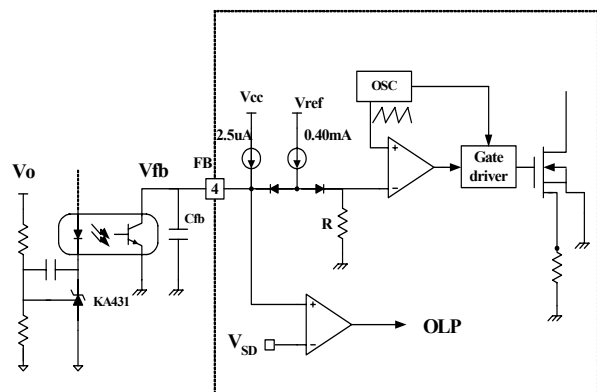

Figure 6. PWM and Feedback Circuit
**2. Feedback Control :** The FSDM101 products are the voltage mode devices shown in Figure 6. Usually, an opto-coupler and KA431 type voltage reference are used to implement the feedback network. The feedback voltage is compared with an internally generated sawtooth waveform. This directly controls the duty cycle. When the KA431 reference pin voltage exceeds the internal reference voltage of 2.5V, the optocoupler LED current increases, pulling down the feedback voltage and reducing the duty cycle. This will happen when the input voltage increases or the output load decreases.